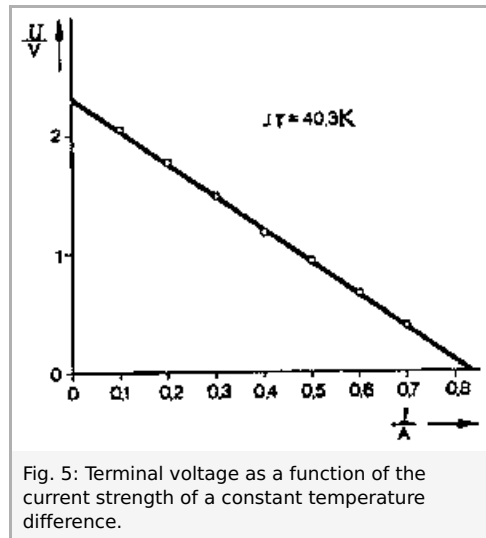

Fig. 5: Terminal voltage as a function of the current strength of a constant temperature difference.
2. Applying the regression expression $U = a + bI$ to the measured values from Fig. 5 we obtain